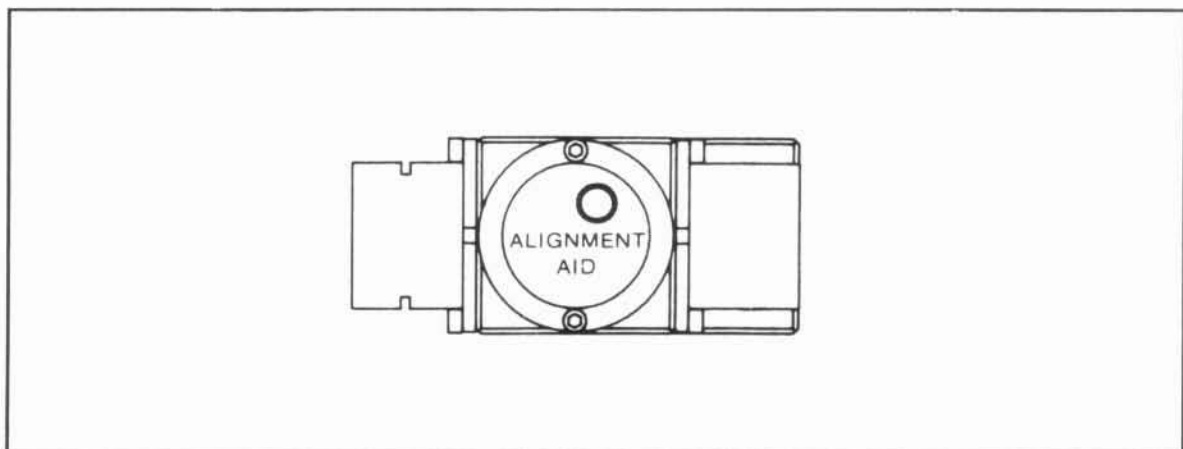

Figure 6-53. HP 10716A with Alignment Aid Attached over Measurement Beam
- g. Place the alignment aid (P/N 10706-60001) over the output aperture (plane mirror converter) on the interferometer such that the measurement beam passes through the aperture on the alignment aid. (See Figure 6-53.)